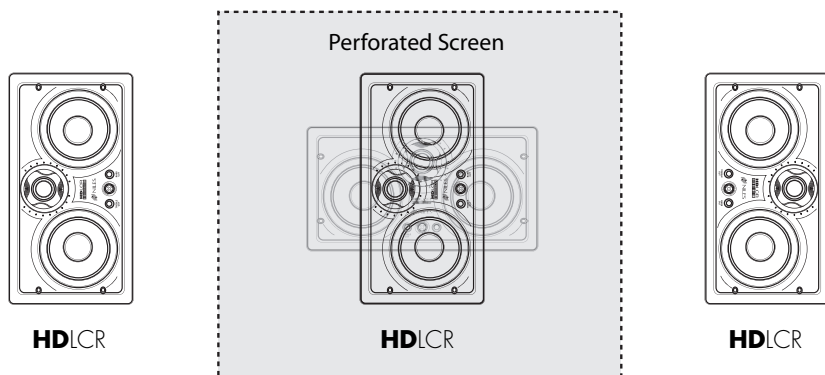

Figure 4. Recommended HDLCR center-channel placement behind a perforated projection screen.
- For installations where a perforated projection screen will be used, place the HDLCR, either horizontally or vertically, behind the screen at ear level, as shown in **Figure 4**.